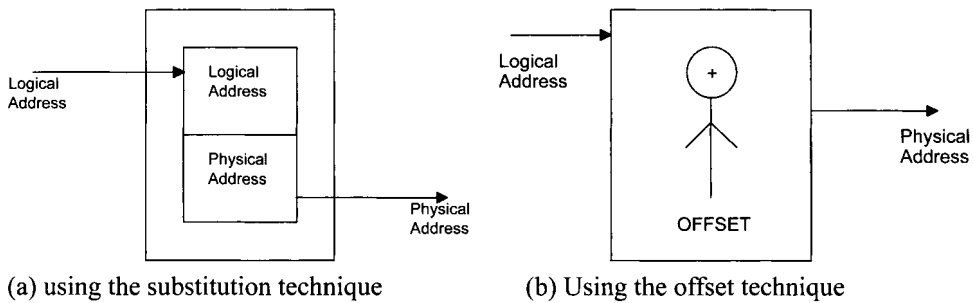

FIGURE 3.10 Address translation
1. By using the substitution technique [Figure 3.10(a)].
2. By adding an offset to each logical address to obtain the corresponding physical address [Figure 3.10(b)].